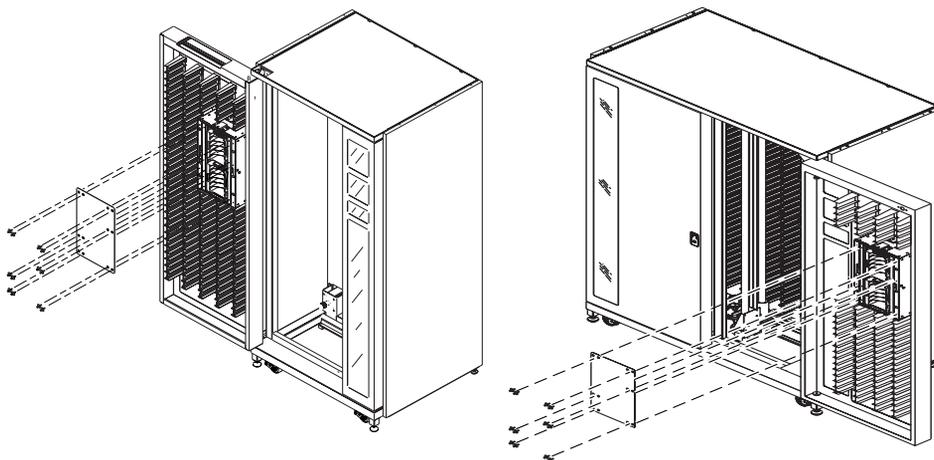

Figure 5-1: Inserting the shipping plate
5. Attach the shipping plate that protects the load port (see Figure 5-1). The load port is located in the right door of the library.